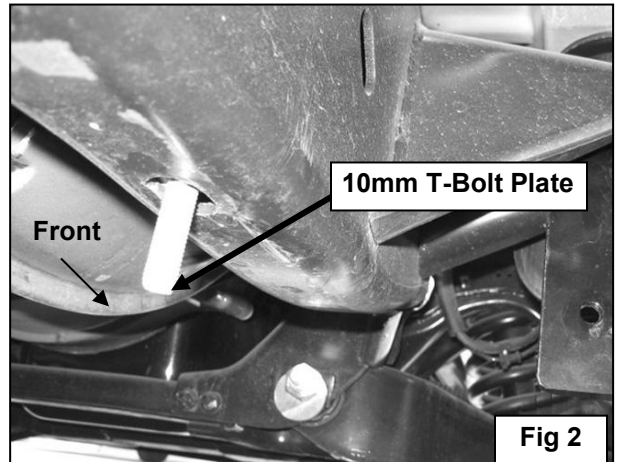

Fig 2
5. Insert one of the 10mm T-Bolt Plates into the slotted hole in the bottom of frame rail located near the front body mount, **(Figure 2)**.